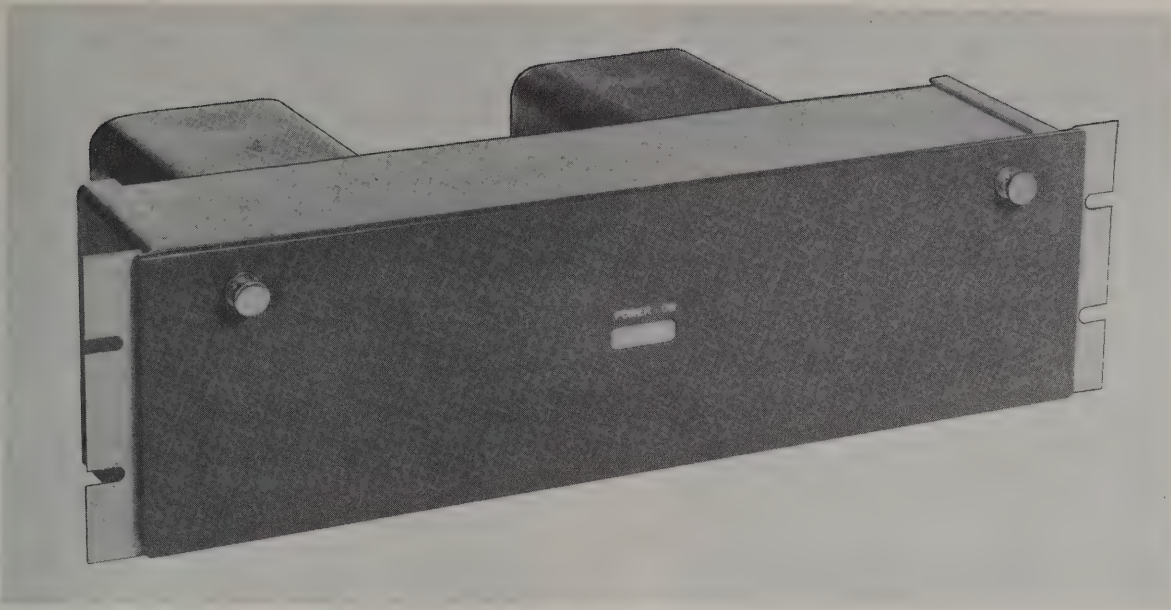

Figure 8. Servo Power Supply.
- (f) *Servo power supply (fig. 8).* This power supply furnishes voltage to all of the servo